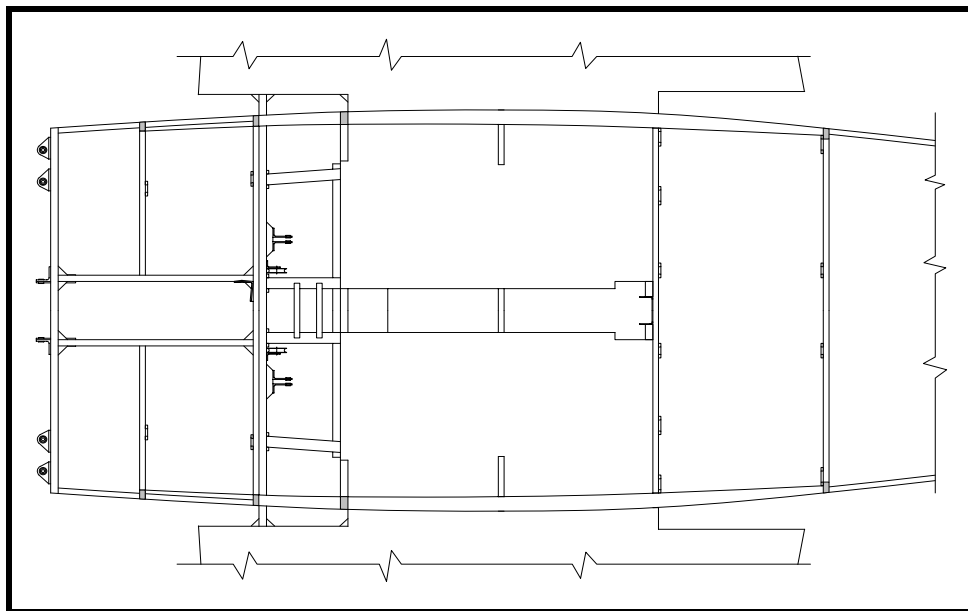

Figure 12
- ❑ Install outboard flooring supports between Sta. 3 and 4. See Figure 12.